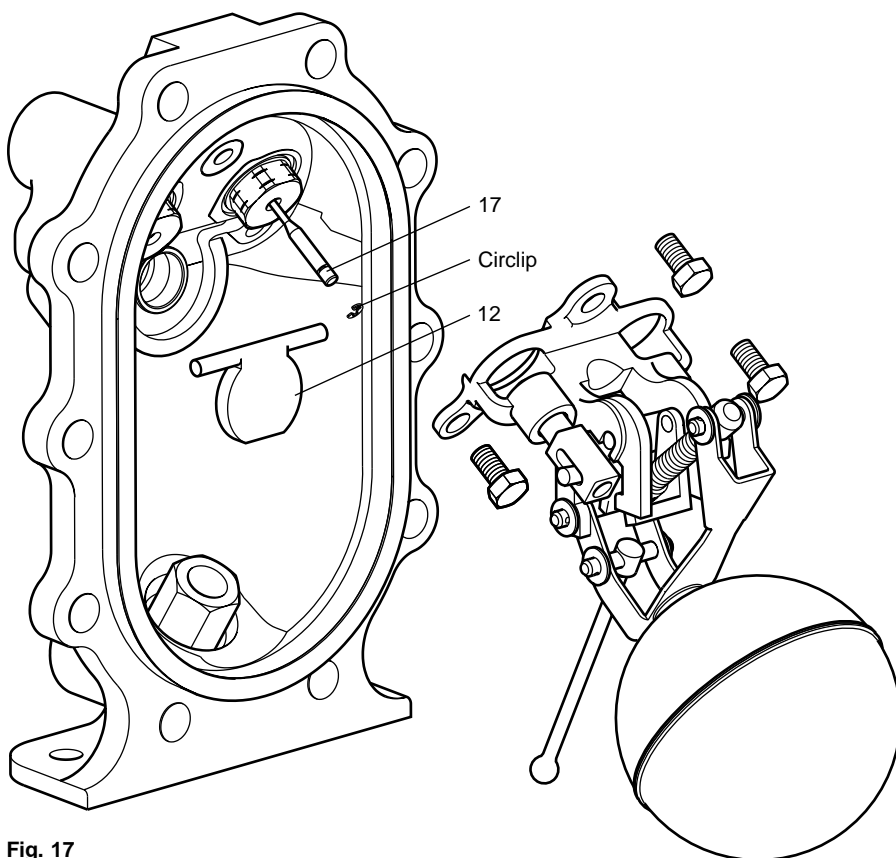

Fig. 17
3. Carefully remove the circlip from the end of the steam inlet valve (item 17).
5. Lift away the pump bracket assembly (See Fig. 17). This will allow access to the inlet swing check valve (item 12).